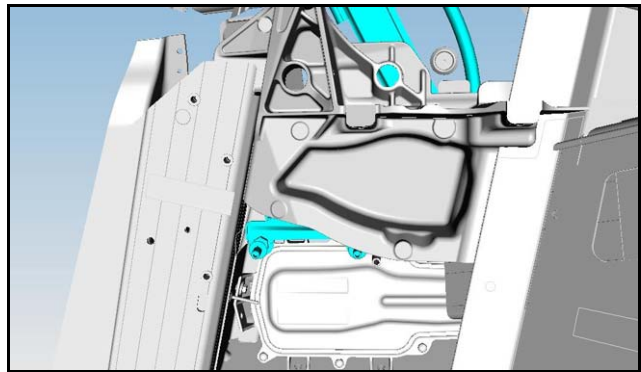

Figure 10
30. Move the regulator up inside the body, to give access (Refer to Figure 10).